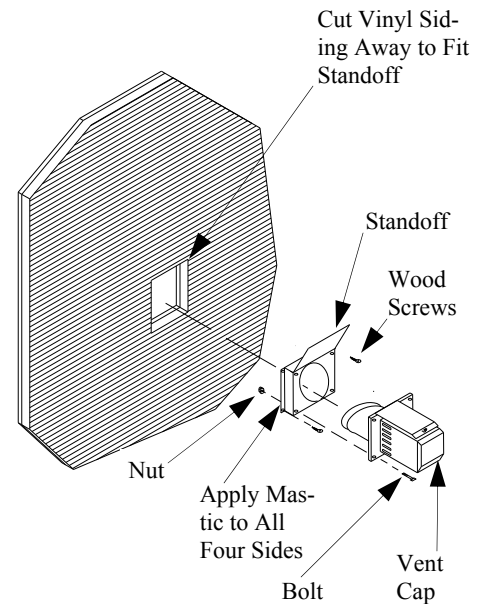

Figure 23— Installing Vinyl Siding Standoff
- If your house is covered with vinyl siding, you will need to use a vinyl siding standoff (see Figure 23, page 11).
For vinyl siding, stucco, or wood exterior use vinyl siding standoffs between vent cap and exterior wall. The vinyl siding standoff prevents excessive heat from melting the vinyl siding material. Bolt the vent cap to the standoff. Apply non-hardening mastic around outside edge of the standoff instead of the vent cap assembly. Use wood screws provided to attach the standoff. See Figure 23.